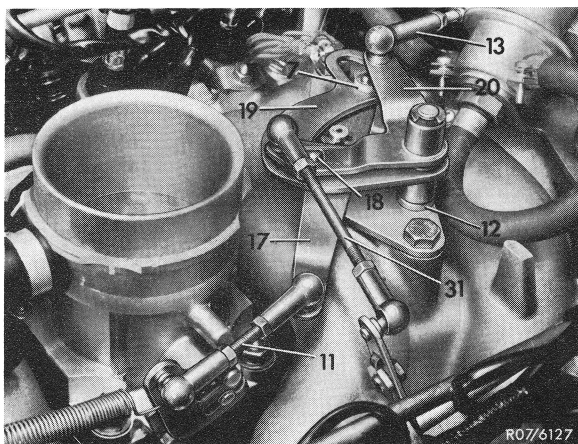

Fig. 4
b) Version with gate shift lever (Fig. 4)
Push throttle valve lever against idling speed stop. Adjust connecting rod (11) in such a manner that the regulating lever (17) rests with roller (7) against the end stop of the gate shift lever (19) (Fig. 4). Push regulating lever (20) toward the rear against stopping pin (18).